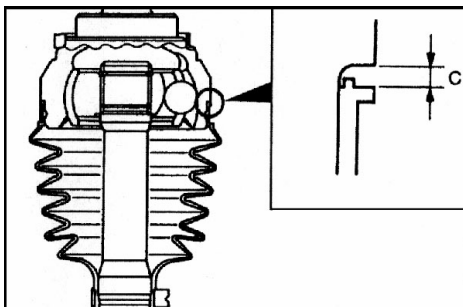

Fig.12-38
11. Install the R.J. boot band (large) so that there is the clearance (C) between it and the R.J. housing at the standard value. (see Fig.12-38)。